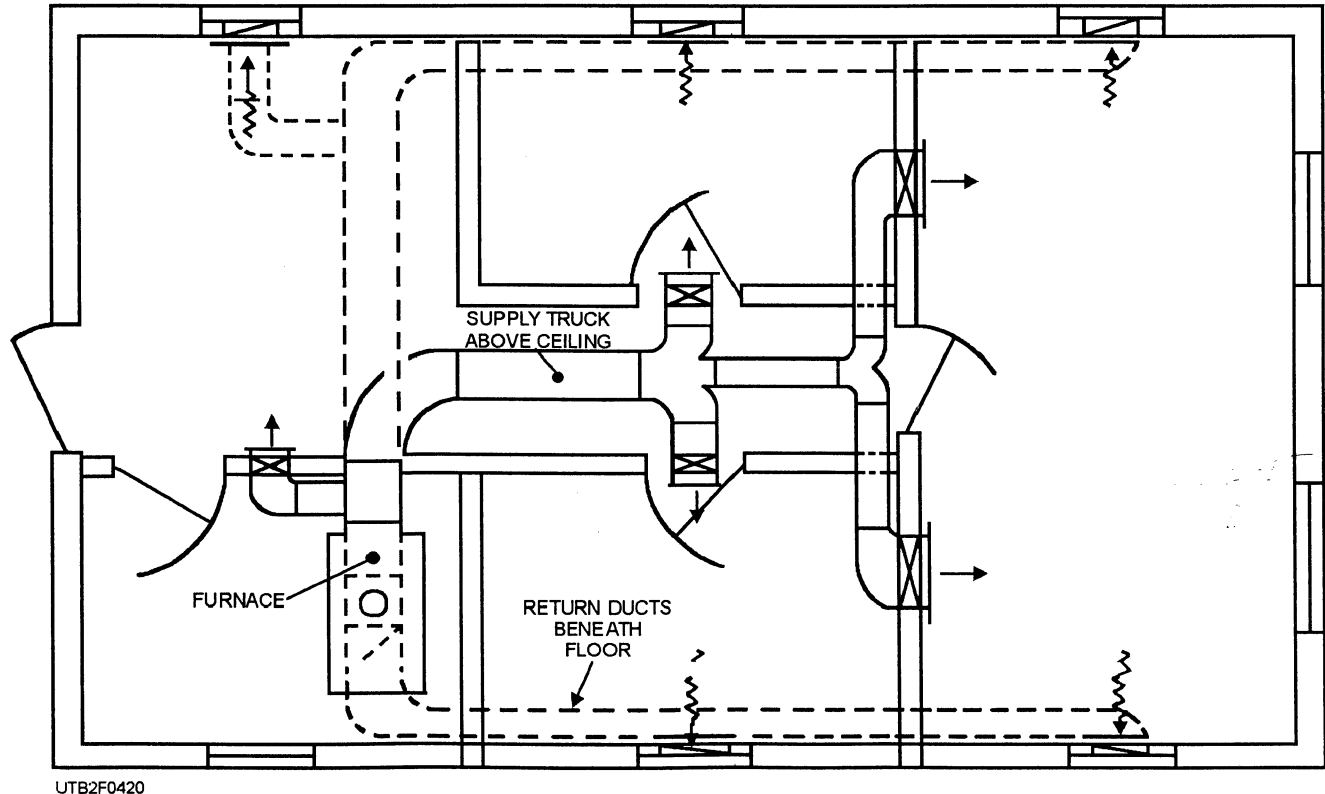

Figure 4-20.—Trunk and branch duct distribution systems.
types of duct layouts: (1) the **INDIVIDUAL DUCT**, where each duct is connected directly to the furnace plenum, and (2) the **TRUNK AND BRANCH DUCT**, where the trunk duct connects to the furnace plenum and then branches off to the outlets. These two types are shown in figures 4-20 and 4-21.